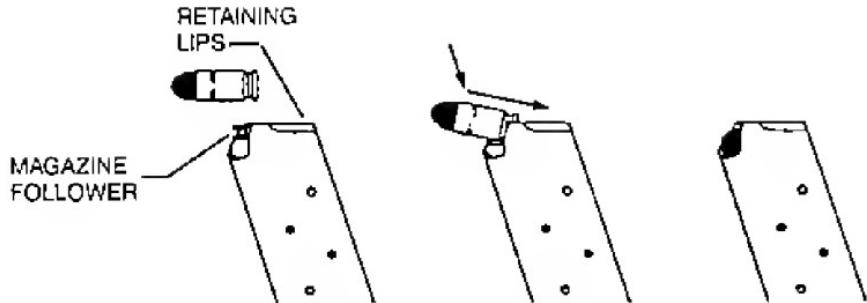

FIGURE 3—LOADING MAGAZINE
3. With open end uppermost, grasp magazine in one hand. Place a round on magazine follower with base just forward of retaining lips (see Figure 3). Press round down and back until base of round touches rear flat edge of magazine. Place next round on top of previous round and press down and back. Repeat until magazine is loaded, but do NOT exceed its capacity. For magazine capacity, see Section 2—Main Features.